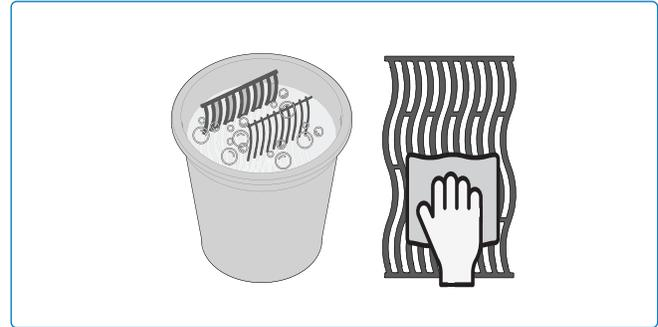

Fig. 7
2. Rinse thoroughly with hot water and dry completely with a soft cloth to prevent moisture from entering the cast iron (**Fig. 7**).